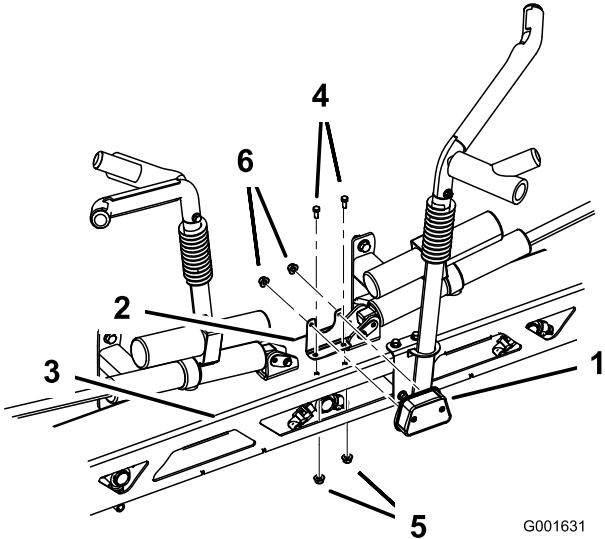

Figure 34
2. Install the tail light bracket to the center boom support with 2 bolts (5/16 x 3/4 inch) and 2 locknuts (5/16 inch) (Figure 34).
3. Install the tail light to the tail light bracket with 2 palnuts (1/4 inch) (Figure 34).